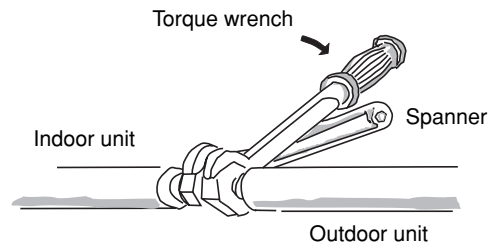

Fig. 7-6
- (1) Tightly connect the indoor-side refrigerant tubing extended from the wall with the outdoor-side tubing.
- (2) To fasten the flare nuts, apply specified torque as at right.
- When removing the flare nuts from the tubing connections, or when tightening them after connecting the tubing, be sure to use 2 monkey wrenches or spanners as shown. (Fig. 7-6)